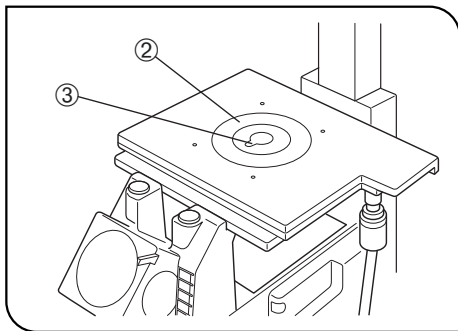

Fig. 84
3. Fit the stage center plate ② into the stage. (Fig. 84)
Ⓞ To facilitate confirmation of the objective front lens position and application of oil for oil immersion objectives, rotate the stage center plate so that the keyhole ③ will be facing the front. (Fig. 84)